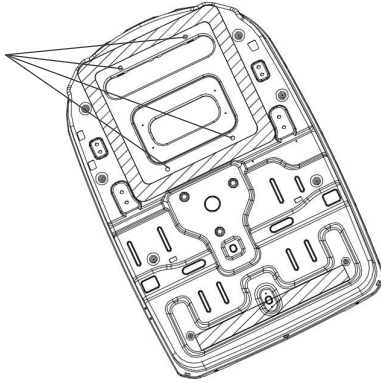

Figure 9
- Set the fabric duct into the duct opening of the frame. Secure the ceiling assembly plate to the rooftop air conditioner with the mounting bolts with maximum torque from 2.3-2.5Nm (see Figure 9). Please start threading the mounting bolts by hand to avoid cross-threading. **DO NOT START THE MOUNTING BOLTS WITH AN AIR GUN.** The mounting bolts should be tightened until the chassis gasket has been evenly compressed.